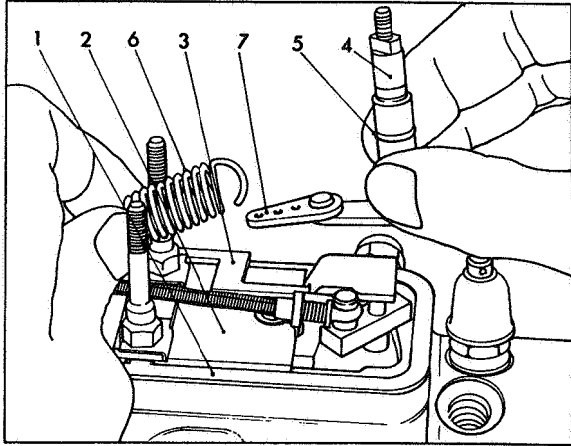
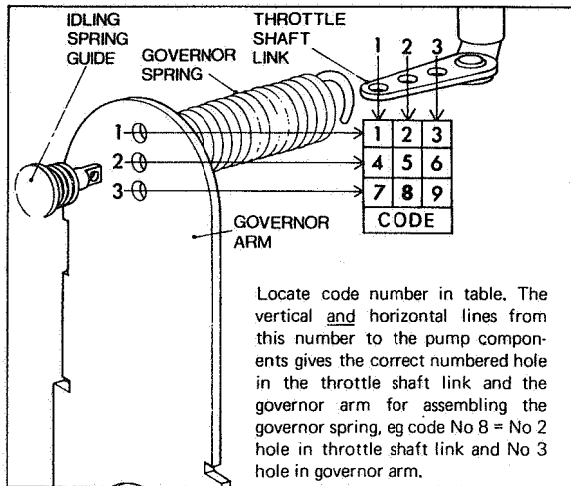

Fig 98 Assembling throttle link
Fig 99 Application of setting code
Position housing gasket (1) Fig 98 on the governor housing face with the gasket tongues placed in the slots of the control bracket (2). Slide the shut-off bar (3) into the cut-out in the control bracket. Fit Protection Cap Part No 7144-459A to the throttle shaft (4) and assemble new shaft seals (5). Place the idling spring onto the idling spring guide and insert into the correct hole in the governor arm. Attach the governor spring (6) to the idling spring guide and to the correct hole in the throttle shaft link (7) as stated in the Test Data or Code. The application of the setting code details is given in Fig 99.